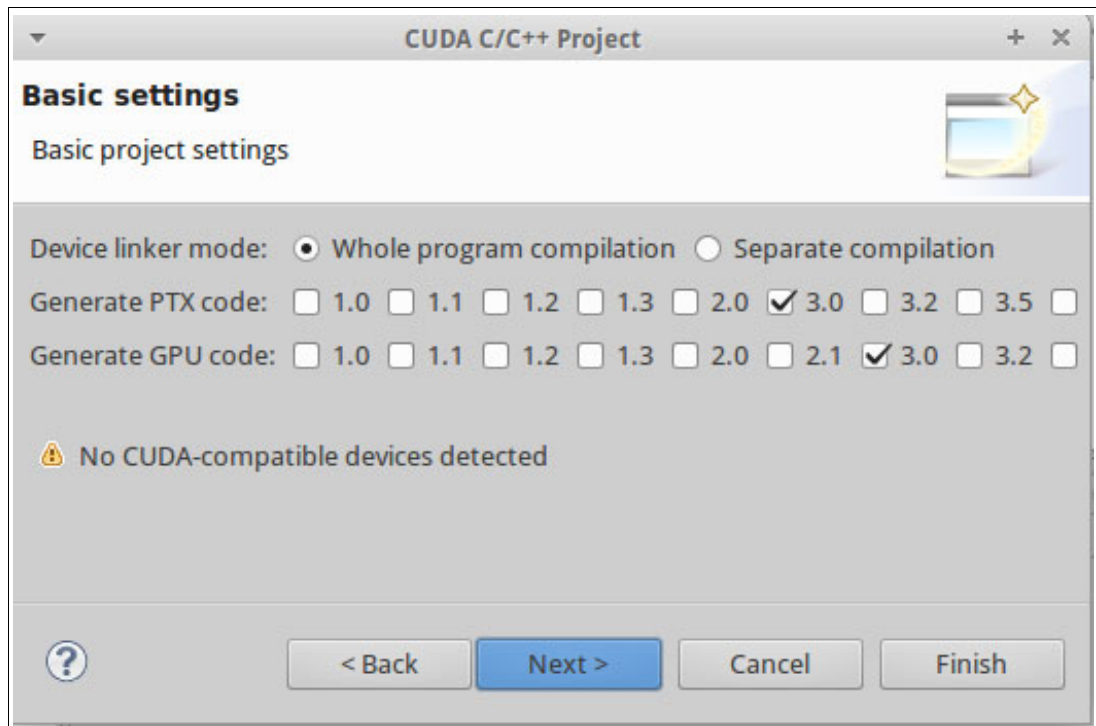

Figure 10 Basic settings at the new CUDA C/C++ project
2. In the Project type area (left side of panel), select **Executable** → **Empty Project** to create an Eclipse managed makefile project, then click **Next**. The “Basic settings” panel appears, as shown in Figure 10 on page 46. In the Basic settings panel, select the device linker mode that should be taken at compilation time, and also the compatibility levels of the generated executable. See “Compilers” on page 36 for available options for GPU on POWER8. These options can be changed later on in the project properties window.